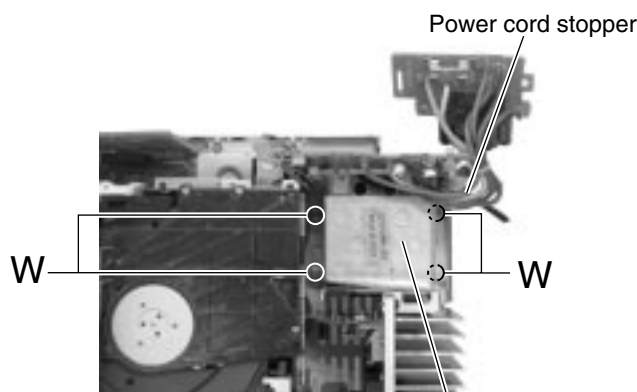

Fig.23
**■ Removing the power transformer assembly (See Fig.23 and 24)**